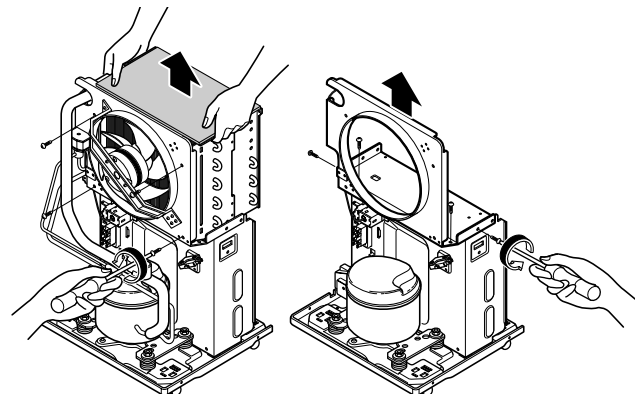

Figure 12
2. Remove 4 screws which fasten the H/E assembly. (See Figure 12)
4. Remove 4 screws which fasten the shroud. (See Figure 12)
5. Remove the shroud from barrier. (See Figure 12)